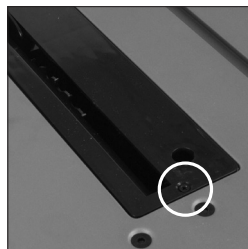

Fig. 43
- Remove the table access plate by removing the countersunk head screw from the front edge of the access plate. **(Fig. 43)**